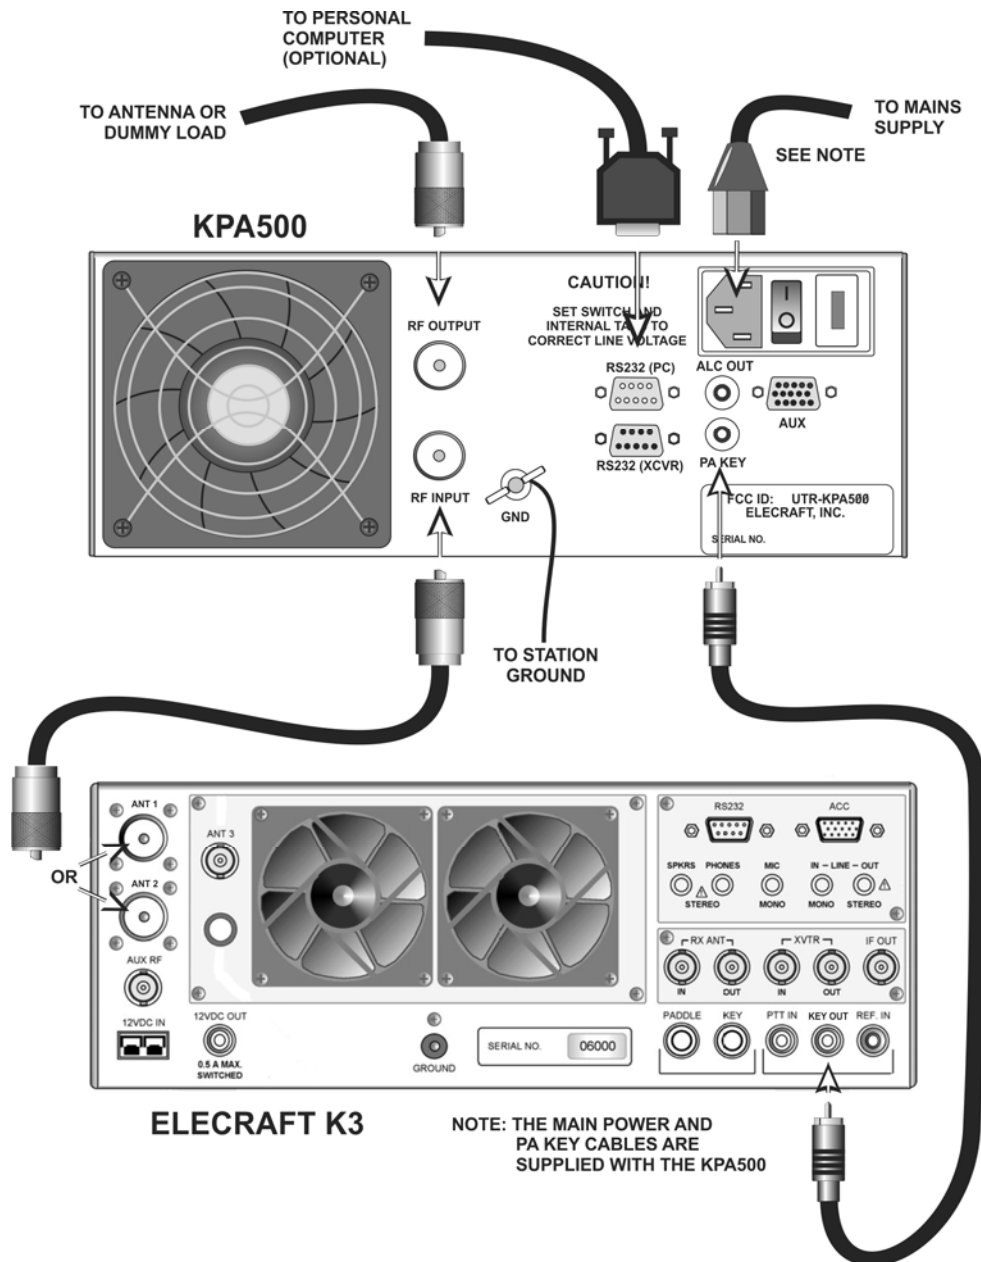

Figure 2. Basic Cabling Diagram for Any Transceiver.
- Tap the **HV** switch (3 on Figure 2) and note the voltage displayed on the LCD. It must be between 65 and 85 volts. If it is outside of this range, immediately tap the **ON** switch to turn the KPA500 off, wait until the fan stops completely, and then position the rear panel power switch to off (O). The fan runs to discharge the power supply to a safe level. Do not disconnect mains power or position the rear panel rocker switch to off until the fan stops.
The KPA500 may be used with the Elecraft K3, K2 or any HF/6 meter transmitter that has a PA Key output meeting the requirements shown under note 4.below. Interconnections the transceiver are shown in Figure 2. The driving transceiver must provide up to 40 watts of RF drive for full output from the KPA500 and the driving transceiver output power must be adjustable as described under *Transmitting* on pg 16.